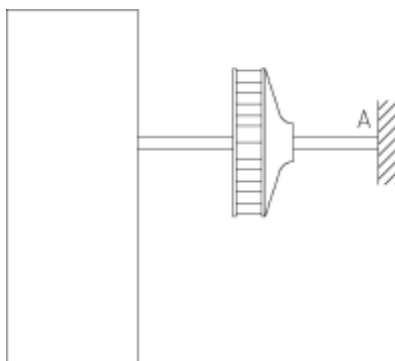

Fig. 10-6 Securing impeller lifting tube
6.- Keeping end A of the lifting tube secured (see Fig. 10-6) slide the impeller along the tube until it is outside the casing, allowing suitable lifting equipment to be attached (Photo 17).